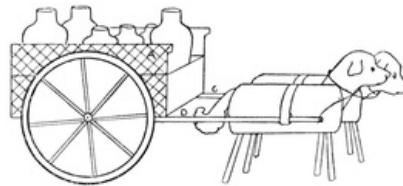

FIG. 147
**A Belgian Milk-cart** (Fig. 147). Two pieces of cardboard, A, are gummed inside a match-box; cover the box with paper, colour it green and mark as in the figure. Small corks should be filed to resemble milk cans. The carts generally contain six, three large and three small cans; they are yellow in colour. Two pieces of cane, or two match sticks, D and C, are glued under the cart for shafts; the ends are slipped through pieces of looped paper gummed to the backs of the dogs. A piece of string tied to the ends of the shafts and round the dogs fastens them to the cart. The dogs are grey, and one is often smaller than the other.